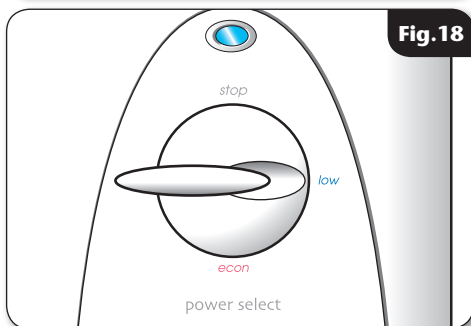

Fig.18
- Turn the power selector to the **'COLD'** position (**fig.18**) and wait until water starts to flow from the flexible hose.